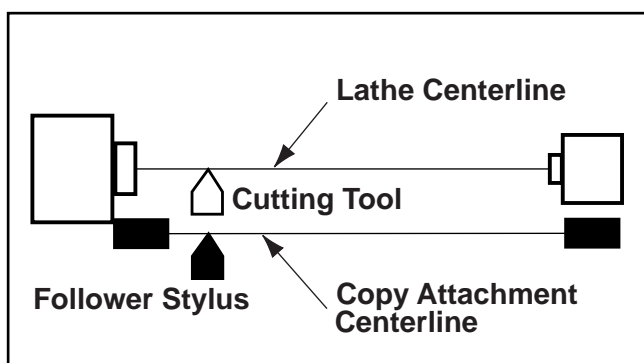

Figure 13. Stylus/Cutting Tool alignment.
1. To make identical copies from a master spindle it is necessary to first make certain the cutting tool and the follower stylus are aligned with their respective centerlines. **See Figure 13.** This can be done most easily by mounting turning squares with identical dimensions on the lathe centers and on the Copy Attachment centers. Move the follower stylus so it just touches the square. Adjust the cutting tool in or out of the holder so it also just touches the square. Remove the turning squares.